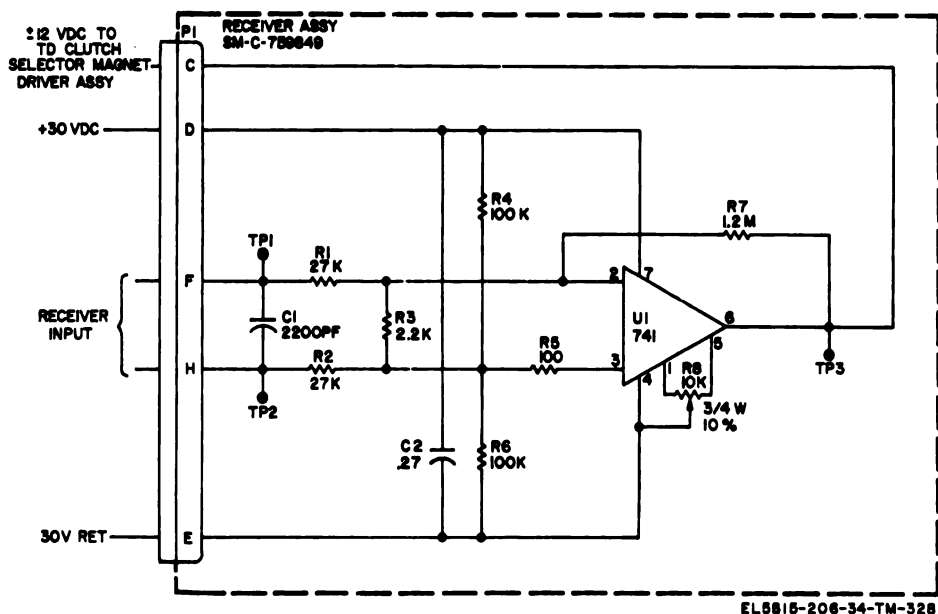

Figure 2-70. Receiver module, simplified schematic diagram, TT-698 (\*)/TG.
(1) *Receiver module* (fig. 2-70). The receiver module accepts the ±6 volt MARK/SPACE signals from the receive line. The input impedance of the